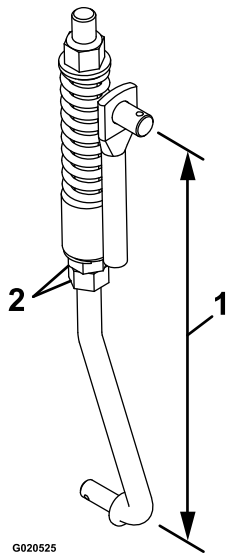

Figure 58
8. Adjust the linkage length with the 2 nuts at the bottom of the vertical spring assembly (Figure 58).